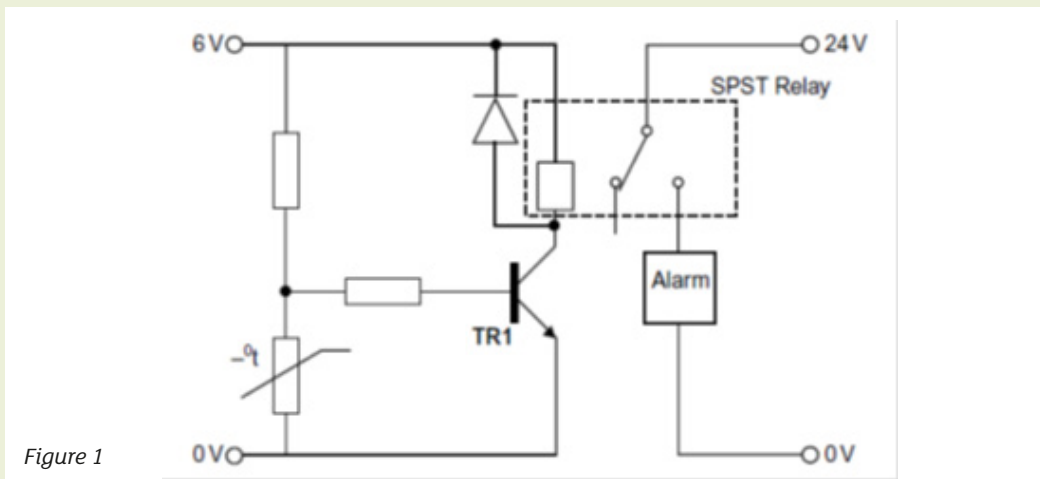

Figure 1
- 2** The following modification has been suggested for a basic temperature alarm circuit shown in Figure 1